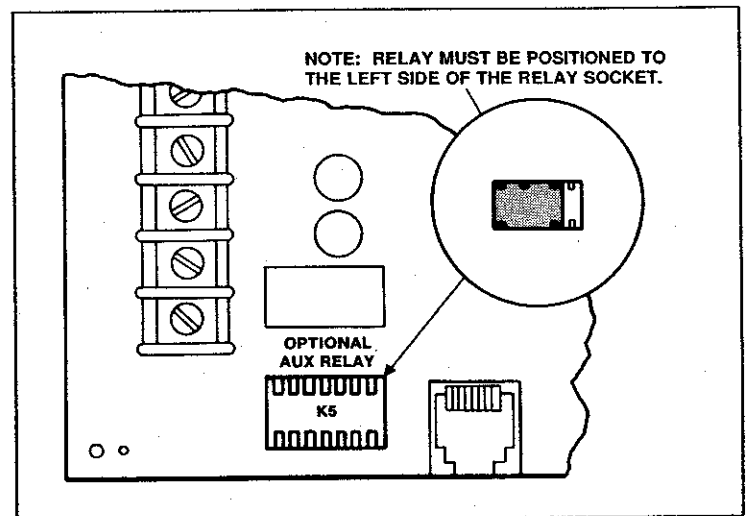

Figure 3: OPTIONAL AUX RELAY INSERTION
**NOTE:** The auxiliary relay is an optional plug-in relay (model #D136), and it is *not* included with the control/communicator. The relay must be installed into socket K5 as shown in Figure 3. The plug-in relay has two legs on one side and three legs on the other side. When inserting the relay, always ensure that the three leg side is facing upwards and the two leg side is facing down.